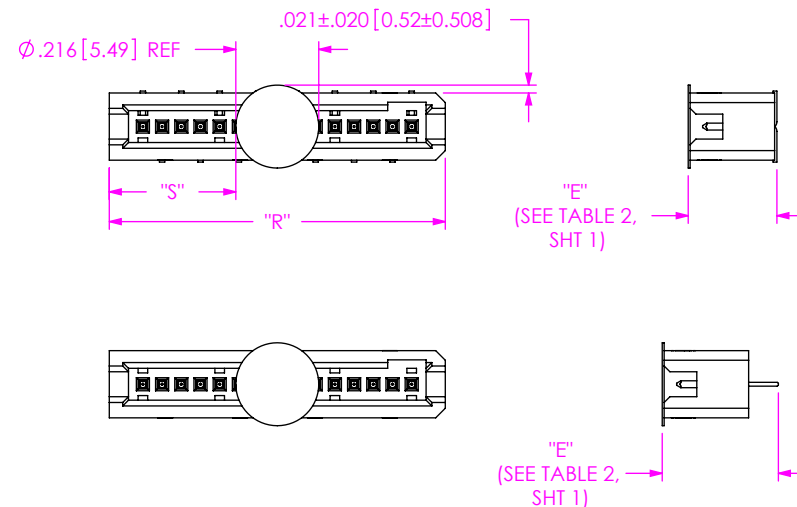

FIG 3
-K: POLYIMIDE FILM (SEE FIG 3, SHT 2)